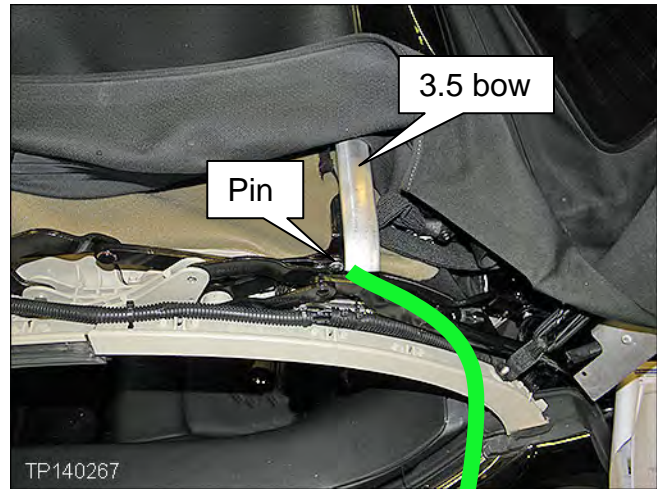

Figure 34
21. Remove the 3.5 bow pin shown in Figure 34 as follows: